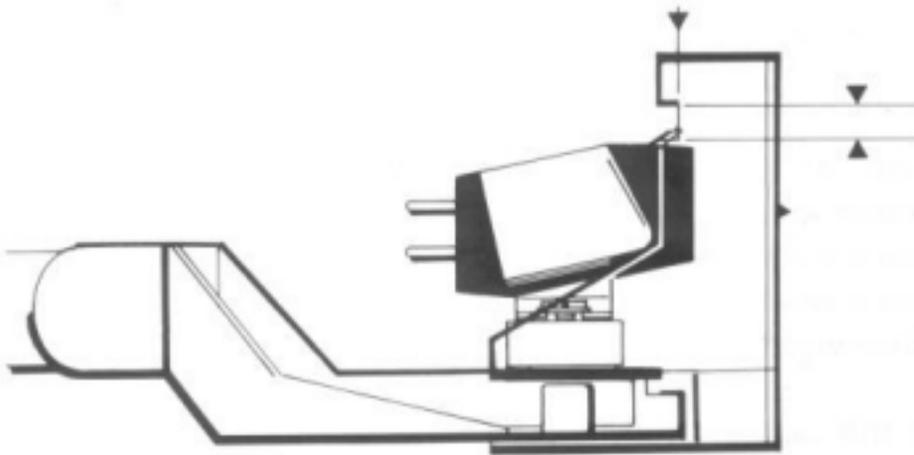

Figure 21
6. Slide the cartridge wand as far as possible into the mounting gauge. Figure 21 illustrates the correct position of the stylus tip. The longitudinal position of the stylus can be varied by sliding the cartridge with respect to the arm. If the spacers have been properly